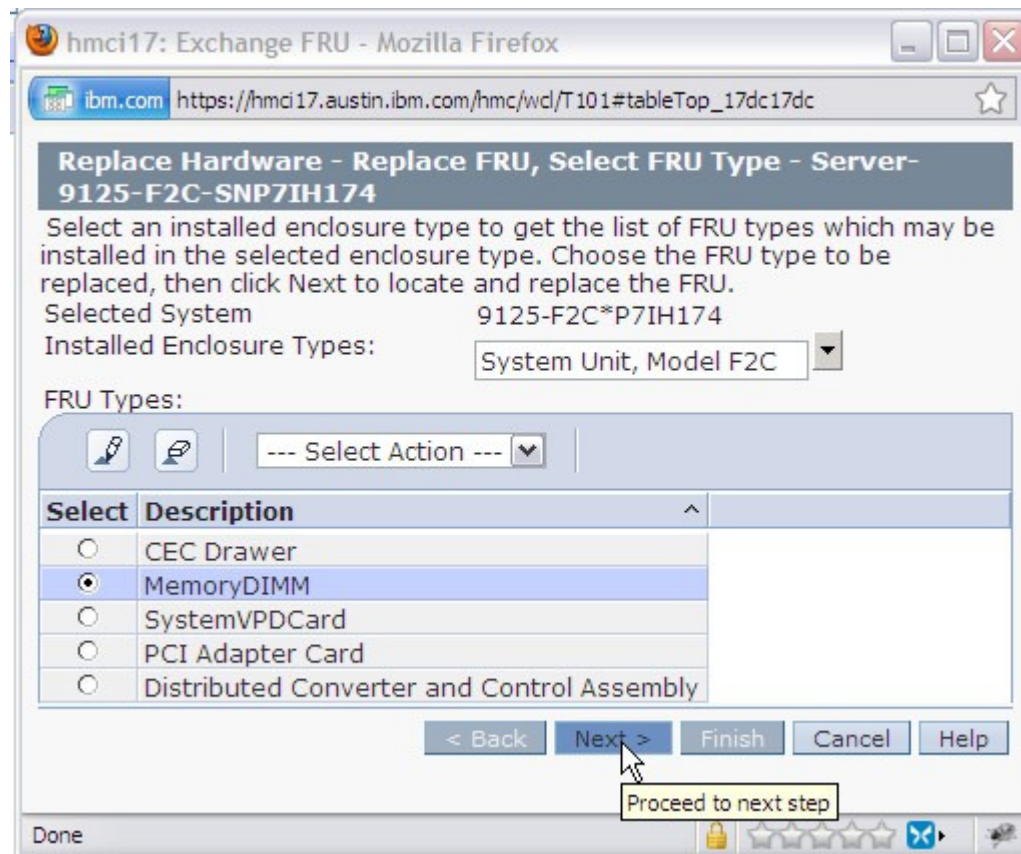

Figure 7 Memory DIMM Selection
STEP 11 In the Replace **Hardware – Replace FRU, Select FRU Type** window *select MemoryDIMM* then *click* the **Next** button. See Figure 7.